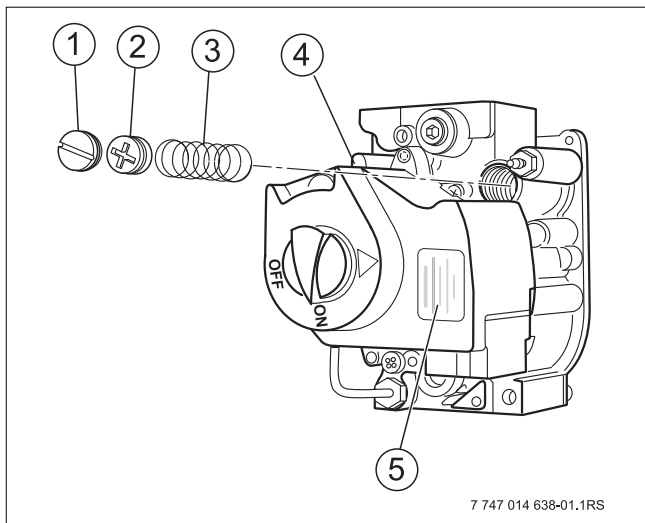

Fig. 3 Gas valve
- Apply yellow label (→ Fig. 3, [5]) from the Honeywell LP conversion kit in a readily visible location.